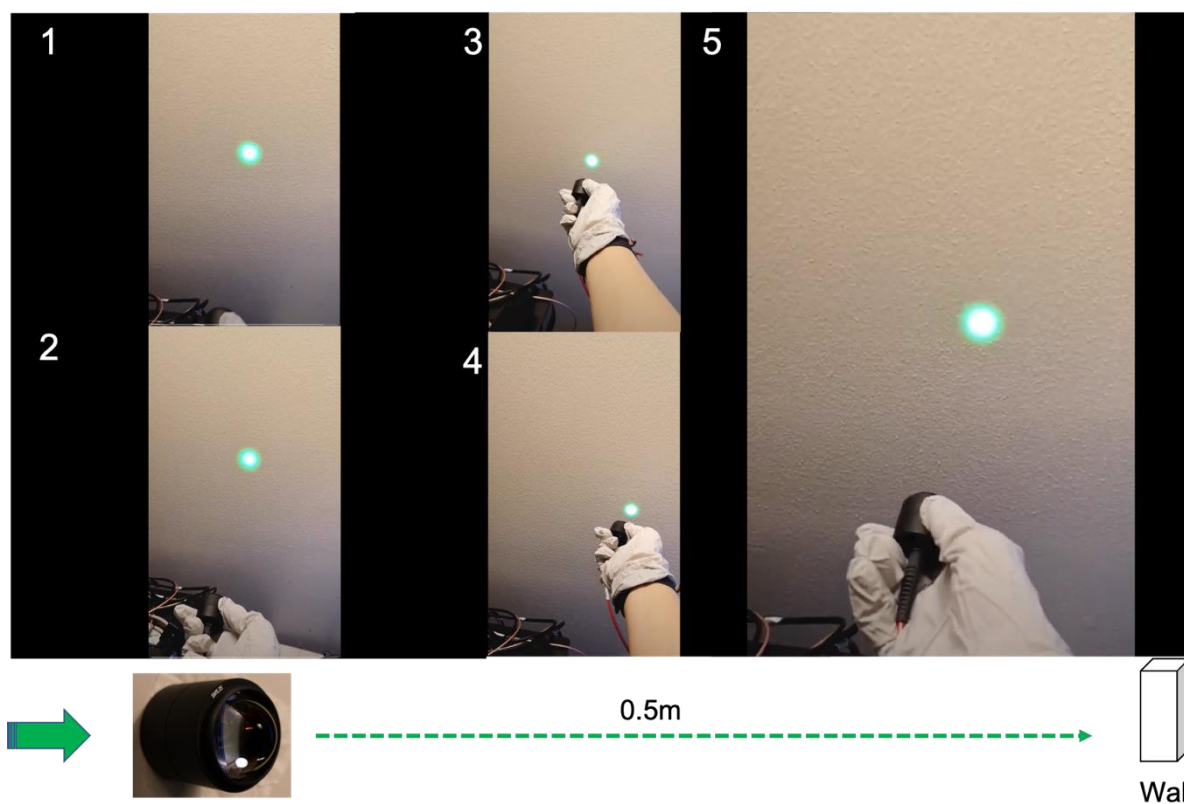

Figure 15: Checking output light from TFB after passing through aspherical lenses and before entering the kinematic filter cage.
Step53. Confirm that the light coming out of Lens tube of Step51 is collimated. For this, attach a green LED (item h) to the mount and follow visualize spot changes by approaching and distancing the assemble relative to a white wall (see Fig.15)